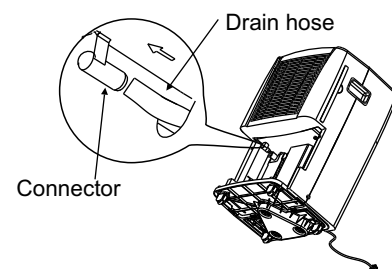

Fig.9
- Insert the water hose through the hole in the back of the unit and securely press it onto the connector on the front of the unit (Fig. 9). Next attach the opposite end of the hose to the fitting. Attach the fitting with (2) screws provided to the back of the unit. Then lead the water hose to the floor drain or a suitable drainage location.